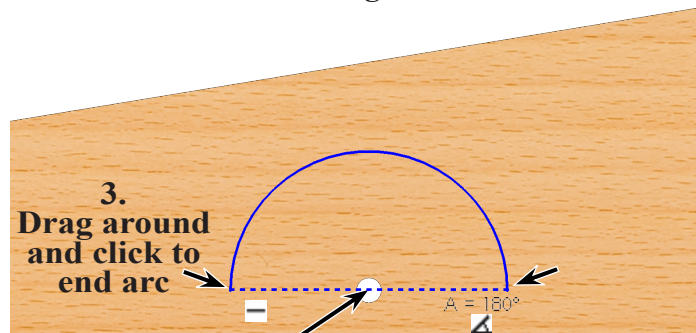

Fig. 3
Step 5. Click in the center of the axle hole to start the arc and move the cursor to the right. Click to place the first endpoint, then move cursor counterclockwise 180 degrees. Click to place the second endpoint, **Fig. 3**.